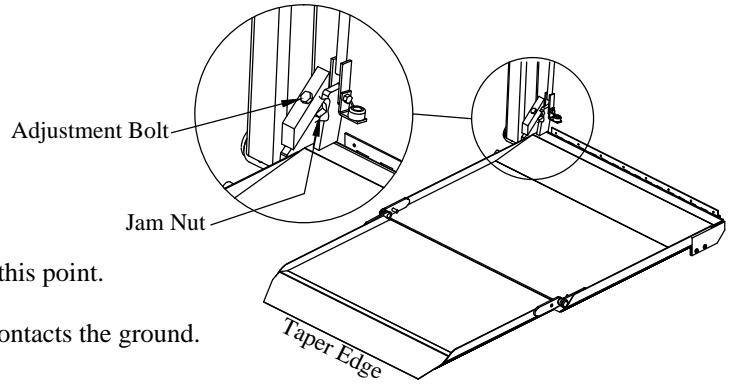

Figure 23: Unfolded 650 platform.
2. **Loosen** the jam nut (Figure 23).